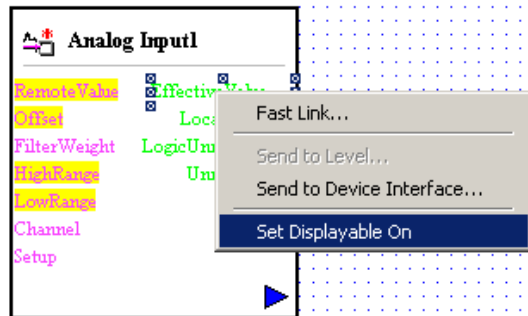

Figure 96: Setting Displayable On
- In the Application Editor, right-click the point and select Set Displayable On (Figure 96).